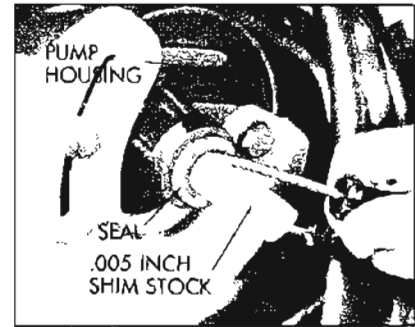

Figure 8-65—Removing Oil Pump Shaft Seal
until it bottoms in pump housing. See Figure 8-65.
6. Remove seal by cutting metal body of seal with a sharp tool and prying out. See Figure 8-65. Extreme care must be used to prevent damage to shaft and pump housing.